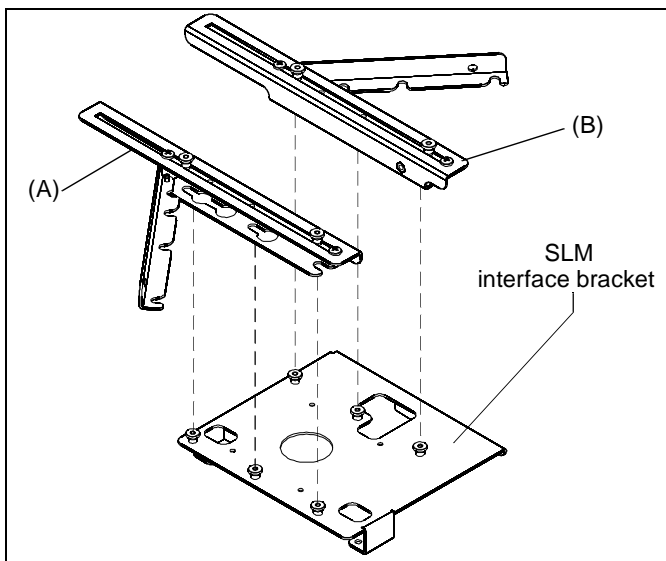

Figure 2
1. Line up keyhole slots of both LSB-101 brackets (A and B) with SLM interface bracket (not included). (See Figure 2)